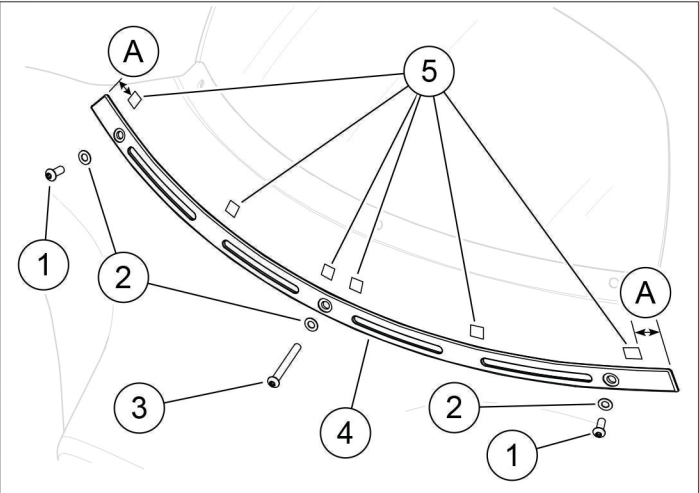

Figure 1. Service Parts: Bar & Shield Windshield Trim Kit
2. See Figure 1. Adhere six pads (5) to the back of molding (4) at locations shown.
3. Using **new** screws (1, 3) and washers (2) supplied, hold molding in place and start long screw (3) with washer at center of molding. Start remaining two screws and washers.